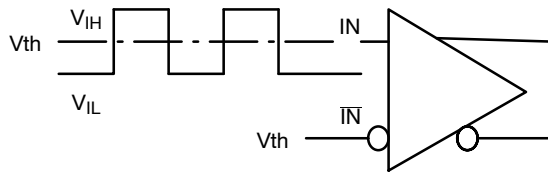

Figure 11. Differential Input Driven Single Ended
**DIFFERENTIAL CLOCK INPUTS DRIVEN SINGLE-ENDED** (Figure 11 & 13) (Note 23)